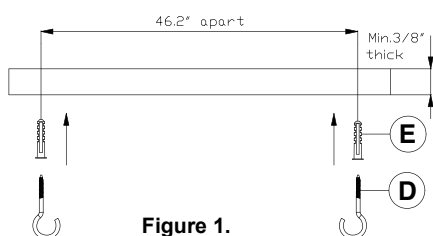
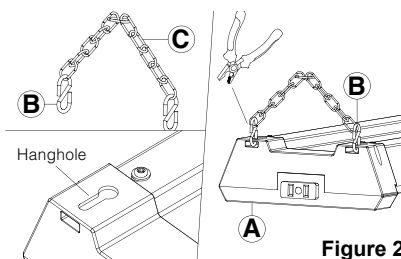

Figure 1.
Figure 2.
1. Install "J" hooks into ceiling (see warning below). (The plastic wall anchors (E) are recommended to be used if mounting onto plaster board). See Figure 1.
**WARNING:** "J" Hooks are for mounting onto wood ceiling or a plaster board surface (Recommend minimum 3/8" thick). Install each "J" hook (D) or other mounting/hook option exactly 46.2 inches apart. Check to make sure the hold is secure and appropriate for the weight of the shop light. Never hang on the shop light or hang any object from the shop light.
2. Slide the "S" hook (B) through the opening at the top of the workshop lamp assembly (A) channel and the end of the chain (C), and press the two ends of the hook tightly with pliers. See Figure 2.